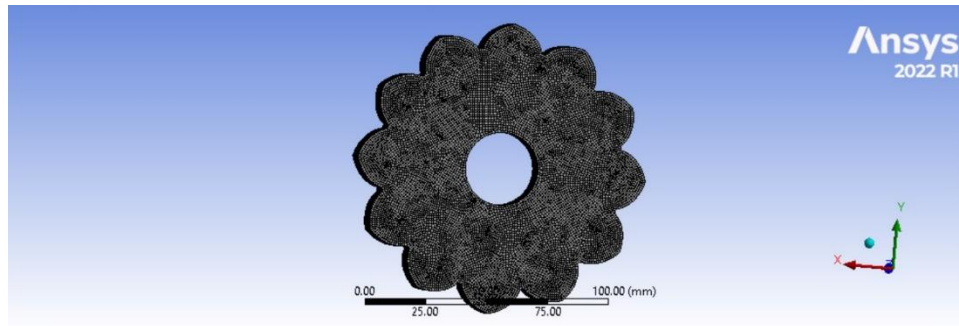

Figure 1b: Generated Mesh on Gear
- **Mesh:** Face sizing was applied to the gear teeth to capture high-stress gradients as shown in **Figure 1b**